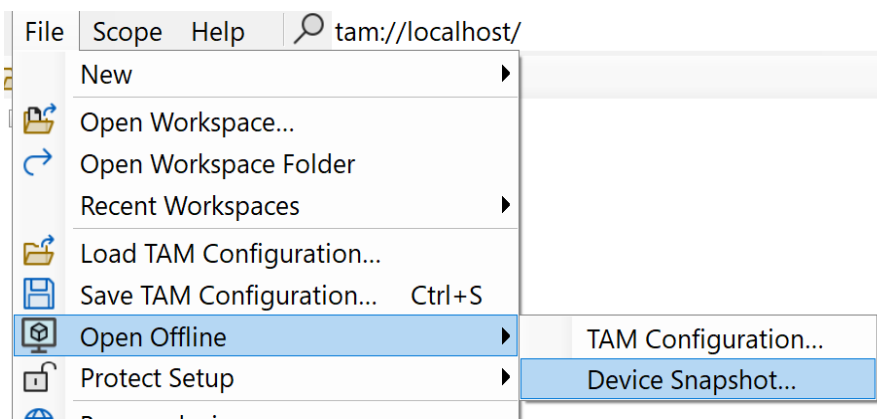

Figure 26: Open a TAM Snapshot via the context menu
2. Load a *.TAMsnap* file via the context menu shown in Figure 26.